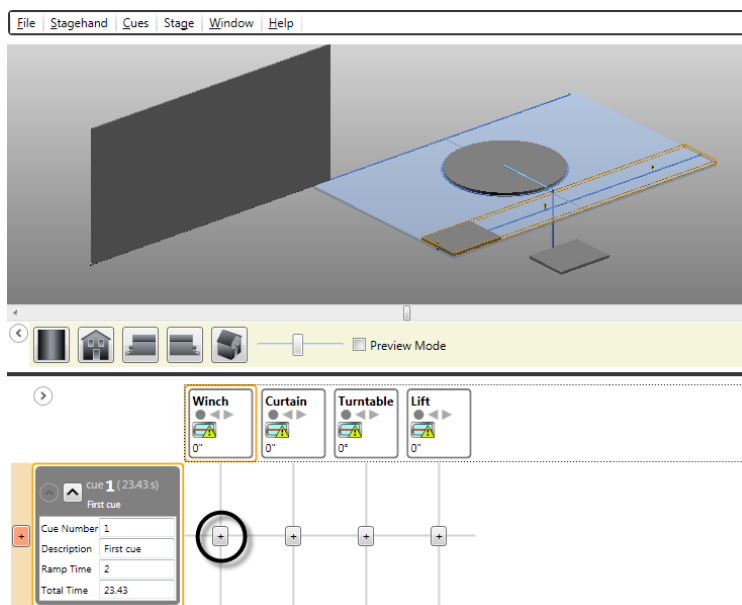

Figure 211
3. If you don't already have a movement for the selected motor in this cue, click the **Add Movement** button in the **Cue Grid** (Figure 211).